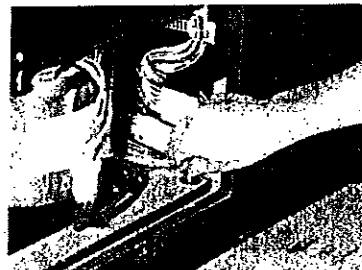

Fig. 17.5
- ④ Take off the 2 Wing Bolts which secure the Power Supply Unit Base Board (Fig. 17.5).